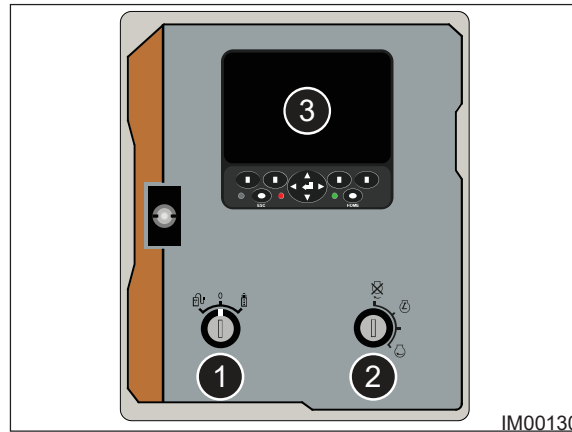
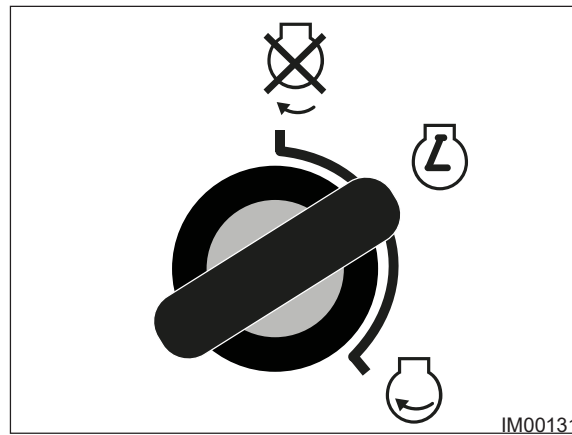

Fig: 5.3 - Control Panel
Fig: 5.4 - Ignition First Click Position
6. Ensure the Track Switch (Item 1, Fig: 5.3) is in the Neutral / Off position.
7. Insert the Ignition Key (Item 2, Fig: 5.3) and rotate to the First Click position (Fig: 5.4).
◇ Allow the display (Item 3, Fig: 5.3) to power-up.